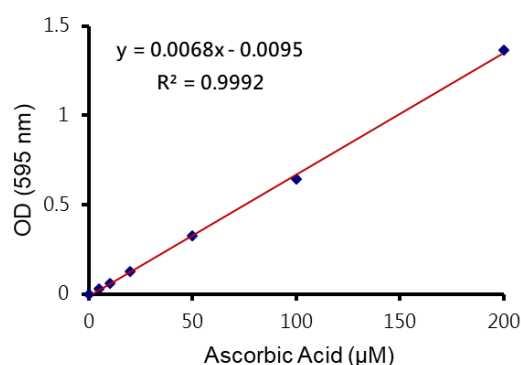

Figure 2. Ascorbic Acid Standard Curve
1. Subtract the absorbance value of the experimental group containing ascorbate oxidase (A_{+AO}) from the value of the group without ascorbate oxidase (A_{-AO}) in [Standard/Blank]. The difference is caused by ascorbic acid. Absorbance (ΔAO), a standard curve was plotted against the mean value of the triplicate ΔAO (Figure 2).